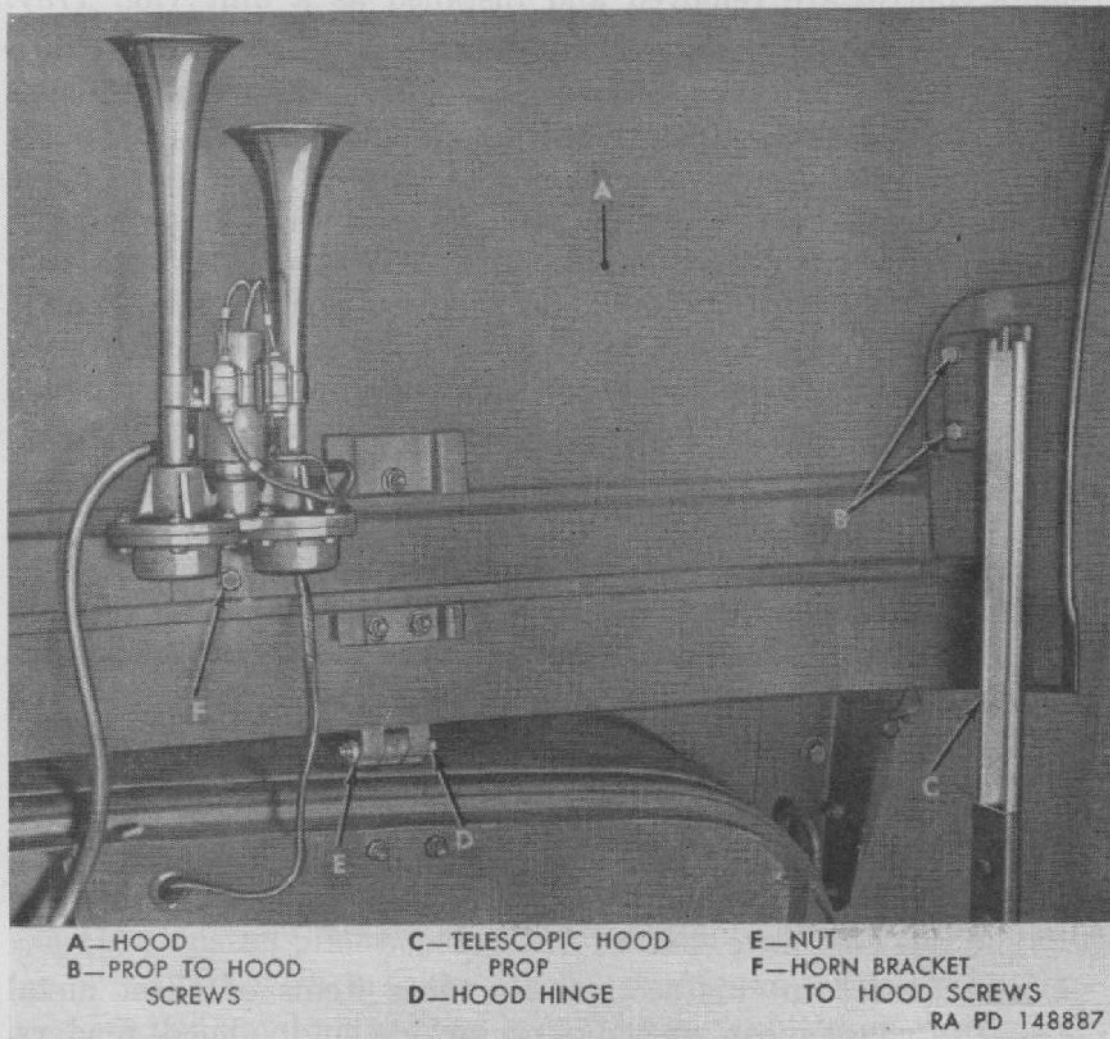

Figure 179. Engine hood installed.
b. **REPLACEMENT.** Disengage hood catches and raise hood to vertical position (fig. 179). Remove bolts which attach horn support bracket to hood panel reinforcement. Lay horns on top of engine. While supporting hood, remove two bolts and nuts which attach each hood prop to hood support bracket. Lower hood to horizontal position. Remove hinge bolt and nut from each hinge; then remove hood. Position hood on vehicle, with hinge holes alined. Install hinge bolt and nut in each hinge; then, while supporting hood in upright position, connect each prop to hood support bracket with two bolts and nuts. With hood in upright position, attach horn bracket (with horns) to hood panel reinforcement with two bolts and nuts. Engage hood catches in hood brackets.